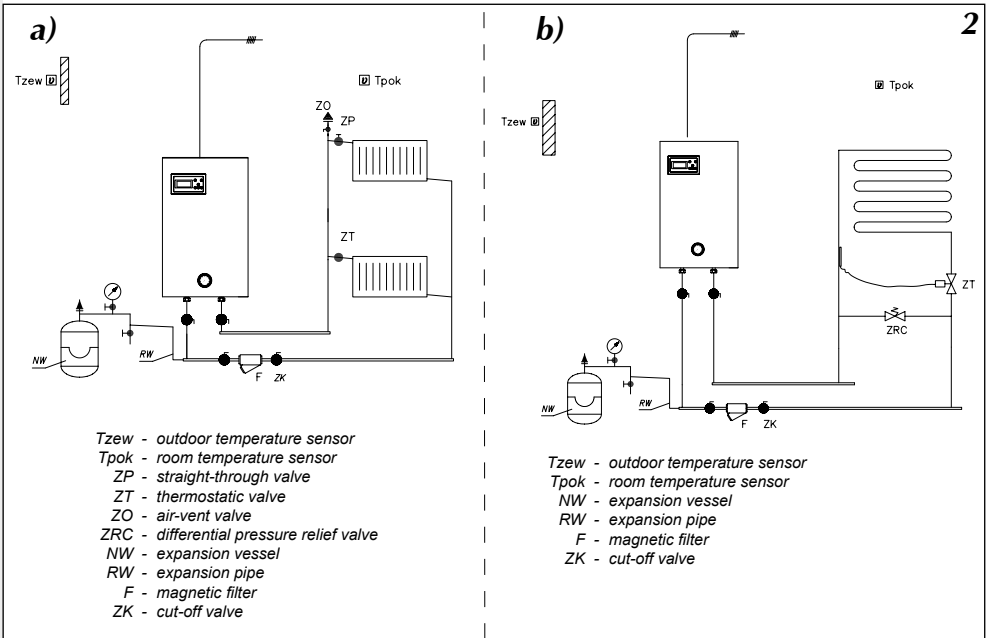
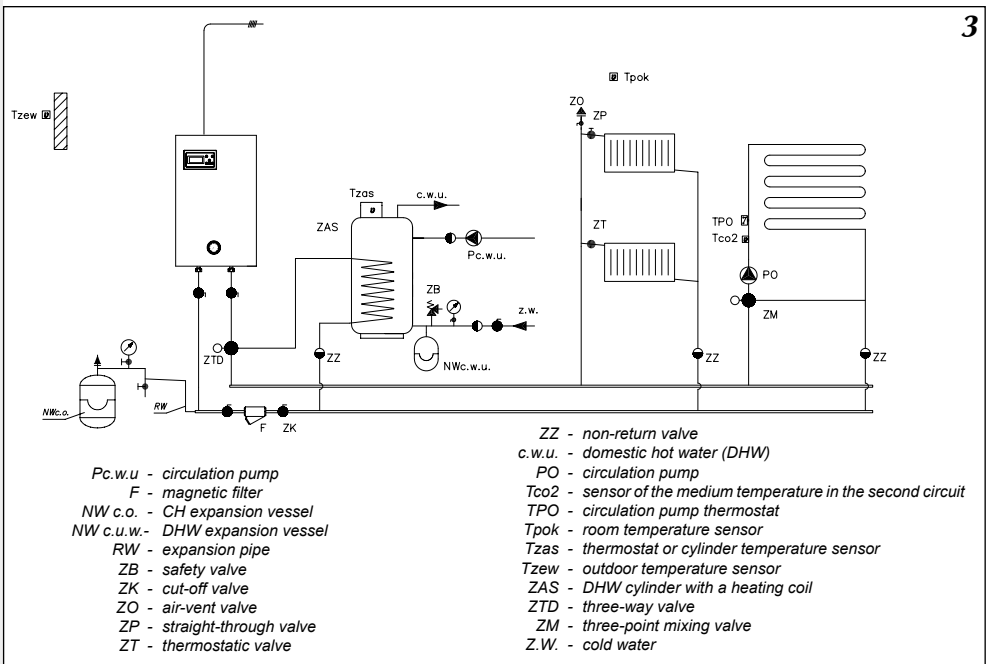

Fig.2 Exemplary scheme of central heating system
Fig.3 Exemplary scheme of central heating system— radiators, under-floor heating, DHW cylinder, DHW circuit
2. Connect the boiler to a central heating system equipped with cut-off valves (see fig.2 & fig.3).
The ZTM contacts of ZIO22 board enables to connect the mixing valve with 3 point drive to supply the second heating circuit (fig.3 ZM valve). This circuit must be adjusted to the lower parameters than the circuit of the boiler e.g. when the circuit of the boiler is set for the maximum temperature of 85°C (see the „Extended Menu“ for WChG, WChG2, Tcomax and Tc2max parameters), the second circuit can supply the underfloor heating system with the maximum temperature of 60°C. In this case it is necessary to remember that the extra safety devices has to be installed to prevent the overheating of the second circuit. The WE-008 sensor measures temperature of the second heating circuit.